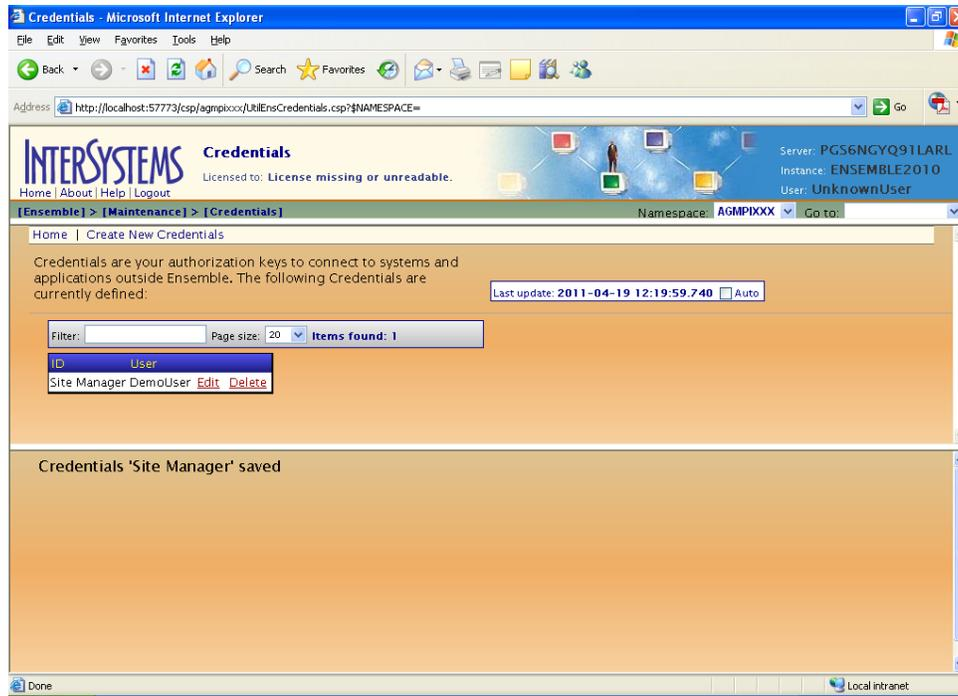

Figure 5-28: Newly created credential in the top pane of the **Credentials** page
7. Click **Save**. The top pane will display the newly created ID and username, as shown in Figure 5-28.